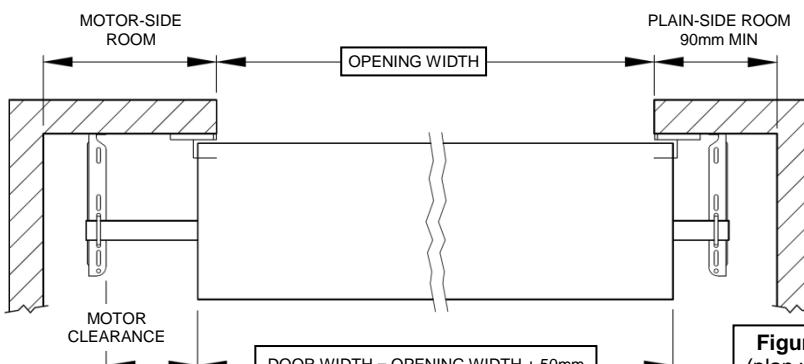

Figure 1
1. Check DOOR WIDTH against OPENING WIDTH (Figure 1). For a standard (non-windlocked) installation the roller door curtain should be at least 50mm wider overall than the opening. For windlocked installation side room increases by 35mm each end and DOOR WIDTH = OW + 100mm. For WINDSTRONG® refer to supplemental instructions.
2. Check SIDE-ROOM (Figure 1). If a motor is to be installed, ensure there is also enough clearance between edge of curtain and bracket (refer to manufacturer's instructions).